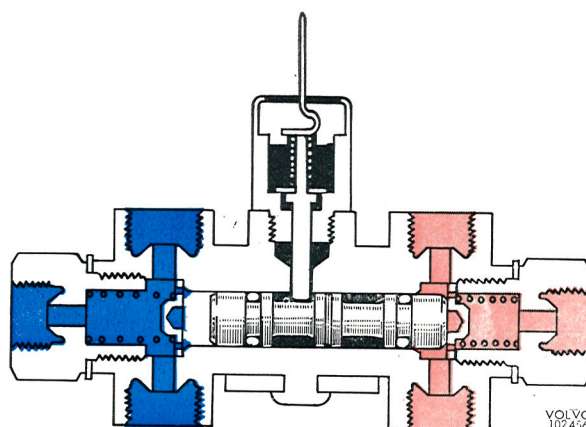

Fig. 5-39. Warning position
It is only when the pressure in the secondary circuit first exceeds that in the primary circuit by about 10 kp/cm² (142 psi) that the pistons are pushed so far to the right that the guide pin (4) can be pressed downwards. When this happens, the switch washer (2) reaches the housing (3) and current is cut in (Fig. 5-39). If the circuits are made pressureless, the guide pin is prevented from returning to its normal position. This can happen by screwing out the warning switch (3).